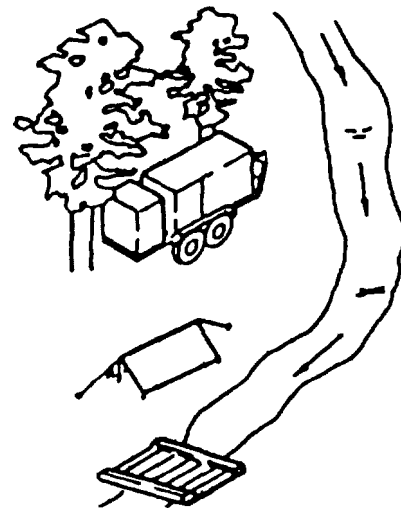

Figure 2-18. Site Diagram.
- a. If a stream is to be used as the raw water source, pick a site for ROWPU upstream from camp. Refer to Figure 2-18.